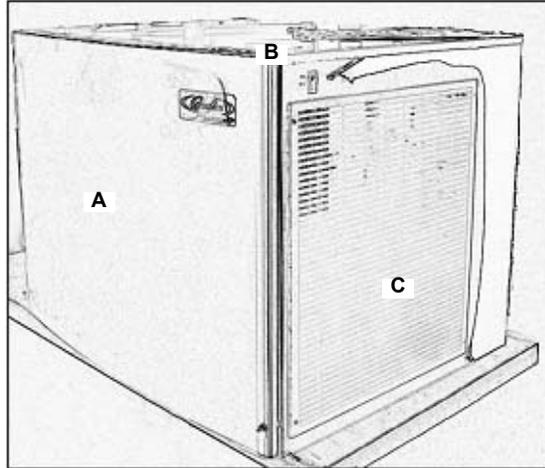

Figure 6.
2. Remove the front panel cover (A), top cover (B), and louvered side panel (C) (Figure 6).